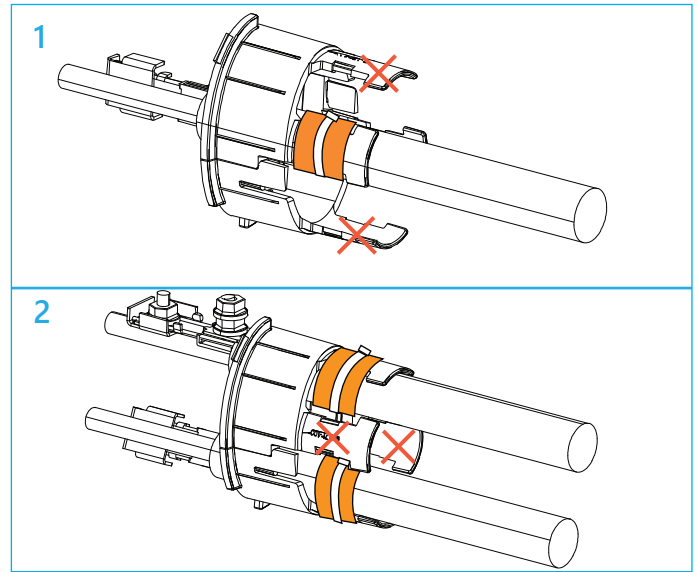

Figure 26.
9.2.5.7 If installing one cable, cut the side prongs and add a tab (if needed) to one of the middle prongs. Snap the two spacer pieces together and then wrap tape and a cable tie around the cable and prong. (Figure 26 -1)
9.2.5.8 If installing two cables in oval port cut the middle prongs, add tabs (if needed), and wrap each cable with tape and a cable tie. Snap the two pieces of the spacer together. (Figure 26 -2)